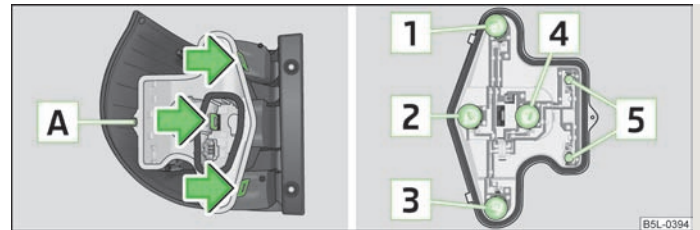

Fig. 174 Remove the middle part of the light/tail light: Bulb arrangement
Overview of the location of the bulbs » Fig. 174.
- › Unscrew the securing screw **A** » Fig. 174 with the aid of the Torx wrench and press the three catches in direction of arrow. Remove the plastic lamp holder.
- › To replace the lamp **1**, **2**, **3** or **4** » Fig. 174 turn the lamp socket **anti-** clockwise as far as it goes and remove it from the housing or remove the lamp **5** from the socket.